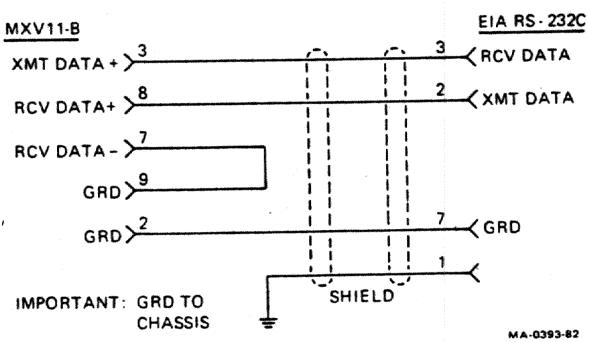

Figure 2-12 BC20N-05 Null Modem Cable
- 2. The receivers on the MXV11-B have differential inputs. Therefore, when designing an RS-232C or RS-423 cable, you must tie Receive Data (pin 7 on the 2 x 5 pin AMP connector) to signal ground (pins 2, 5, or 9) in order to maintain proper EIA levels (Figure 2-12).